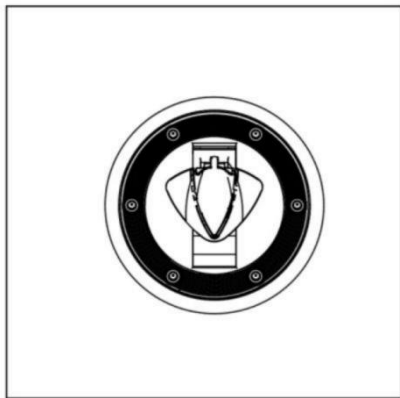

Figure 12 Fuel Tank Cap
4.8. Fuel tank cap opening method (Figure 12)